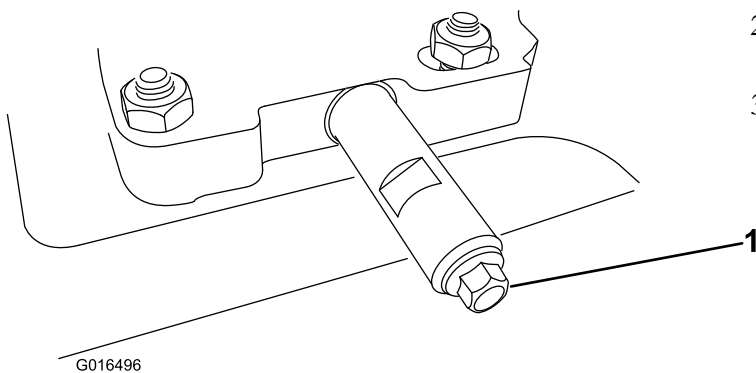

Figure 51
- 1. Clean the area around the oil drain cap (Figure 51).